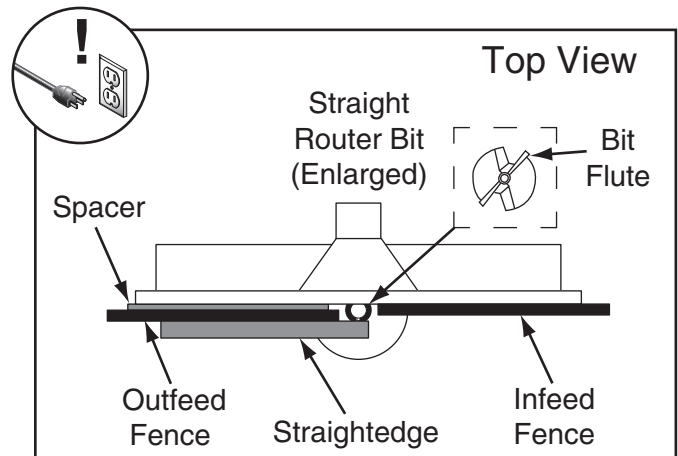

Figure 32. Measuring fence setup for edge jointing (guard removed for clarity).
6. Place straightedge against outfeed fence board, then adjust fence assembly so straight-edge is just against bit flute, as illustrated in **Figure 32**.